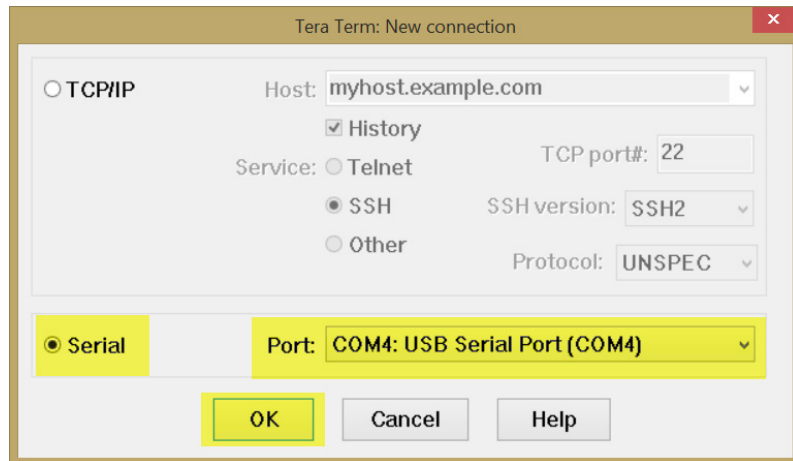

FIGURE E-1. Tera Term New Connection
1. Click on the *Tera Term* icon and bring up the software. *Tera Term* always starts up with the **New connection** window as shown in FIGURE E-1.